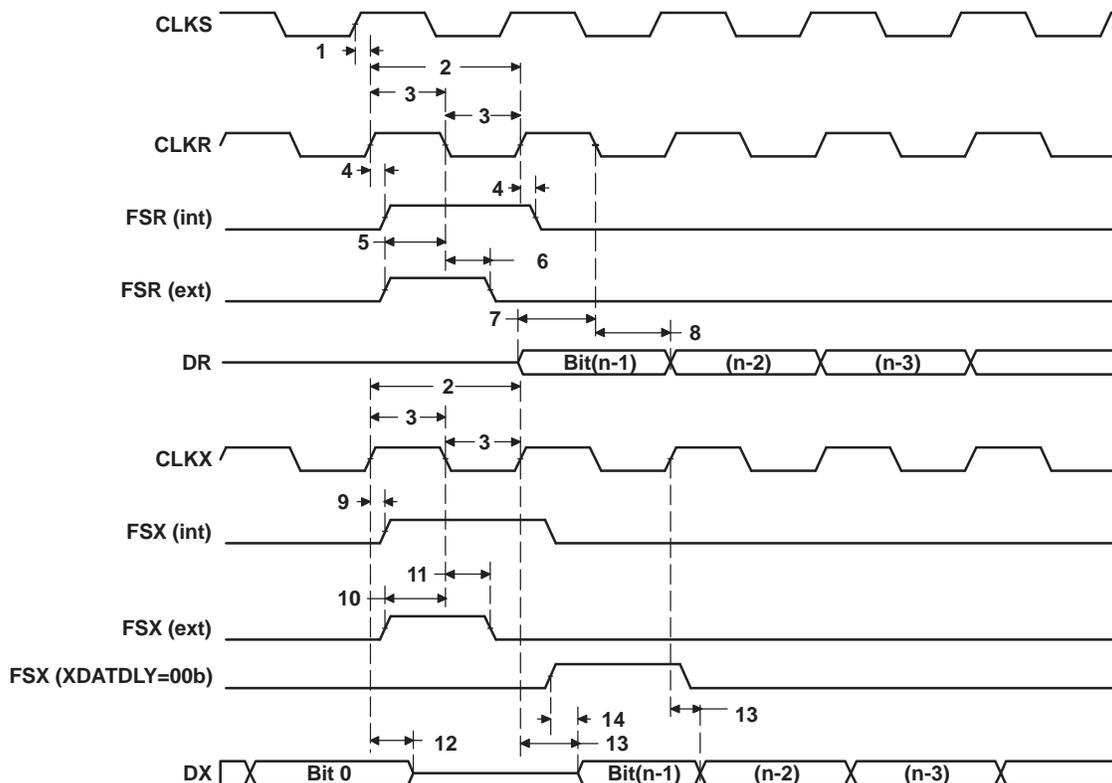

Figure 5-40. McBSP Timing
**5.12.1 Timing Requirements for McBSP (1) (2) (see Figure 5-40)**